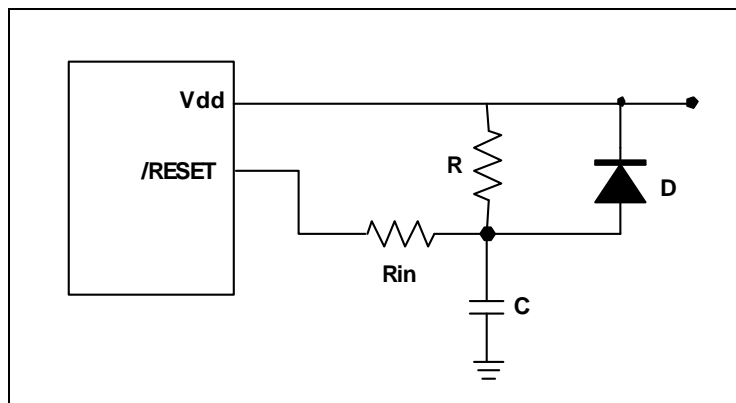

Figure 6-45 External Power-up Reset Circuit
The circuit shown in Figure 6-45 implements an external RC to produce a reset pulse. The pulse width (time constant) should be kept long enough for V_{DD} to reach minimum operating voltage. This circuit is used when the power supply has slow rise time. Because the current leakage from the /RESET pin is about $\pm 5 \mu\text{A}$, it is recommended that R should not be greater than 40K. In this way, the /RESET pin voltage is held below 0.2V. The diode (D) acts as a short circuit at the moment of power down. The capacitor C will discharge rapidly and fully. R_{in}, the current-limited resistor, will prevent high current or ESD (electrostatic discharge) from flowing to pin /RESET.